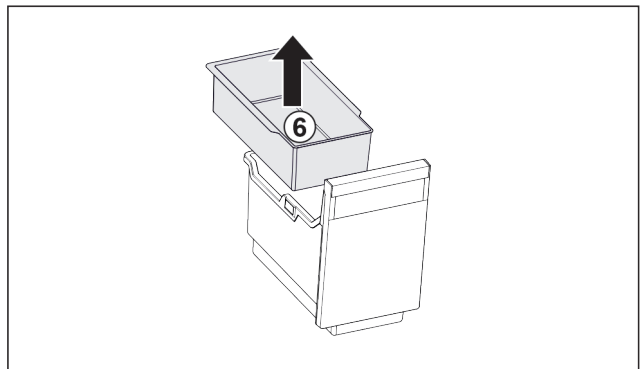

Fig. 140
- ▶ Remove the hang-on tray Fig. 140 (6).